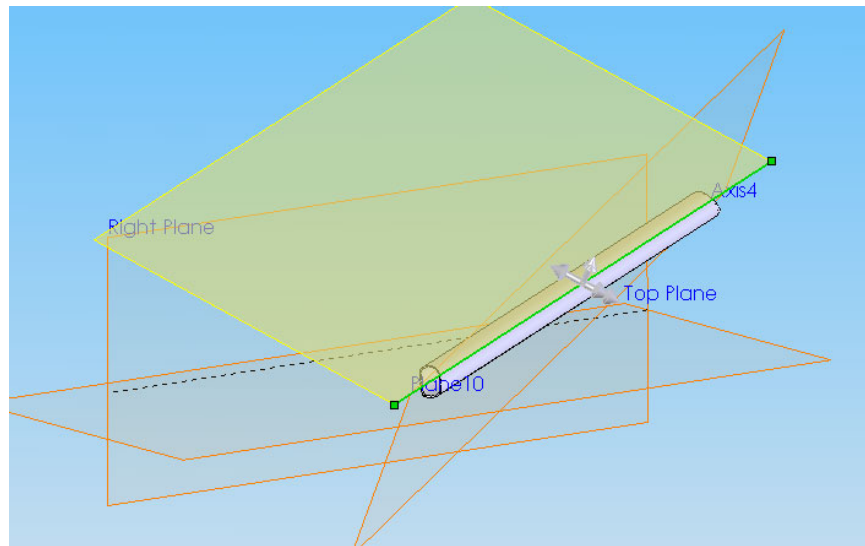

Figure 3.
3. Under Features select Extruded Cut. Select the line previously drawn. Mine defaulted to extruding both directions but just have it go in one direction. Finally select *Thin Feature* in the properties dialog and enter a thickness of 0.001in to slice the tube. Figure 3 shows how this should look before accepting. This will leave you with a small slit on one side of the tube.